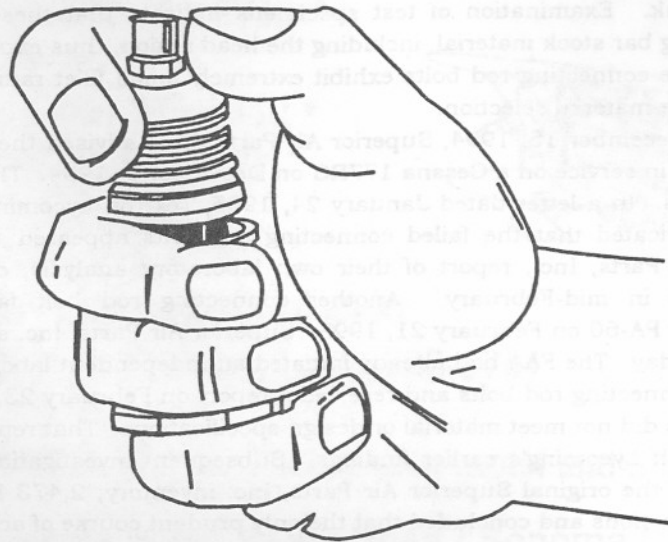

Figure 2.
Step 2 is the physical inspection of the crimp nut to ensure it is seated and solid on the shaft. Separate the seat and retaining nut by holding the valve assembly in one hand and compressing the valve spring with the forefinger and thumb. (See Figure 2.) With the seat and nut separated, grasp the crimp nut with the other hand and attempt to move it. The crimp nut must not move.